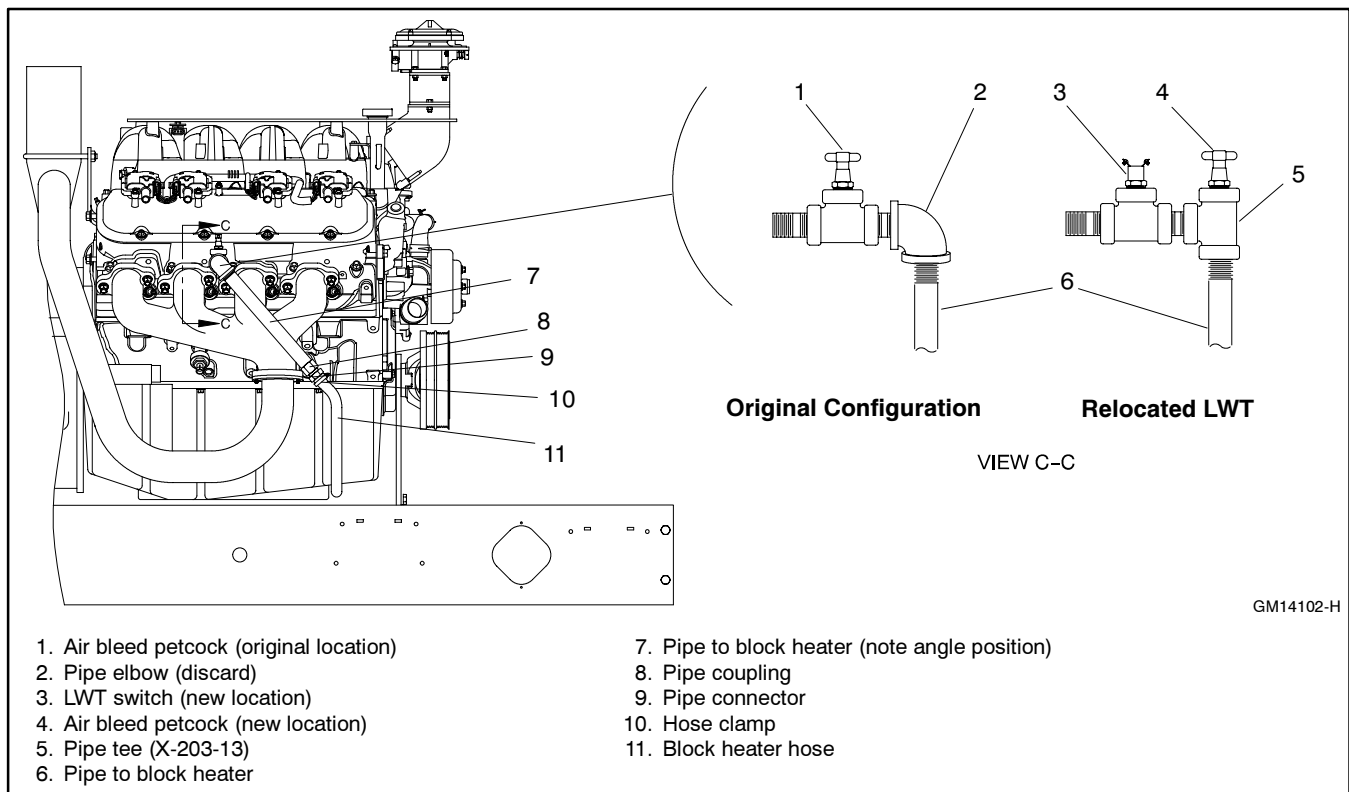

Figure 3 LWT Switch New Location
3. Loosen the hose clamp and remove the block heater hose from the pipe connector. See Figure 3.
6. Apply pipe sealant to the male threads of the pipe nipple and install a 1/2 in. NPT pipe tee X-203-13 (not supplied). Attach the pipe nipple to the center opening on the pipe tee. Rotate the pipe tee to the position shown in Figure 3.